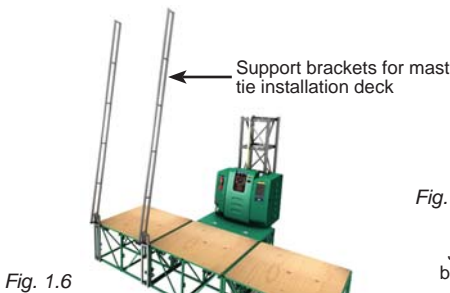

Fig. 1.6
- 11- Install the optional support brackets for the mast tie installation deck. For instructions on the use and installation of the support brackets, refer to p. 25 of the *Bridges* section. Lift up the two support brackets (fig. 1.6) and secure in place with pins.